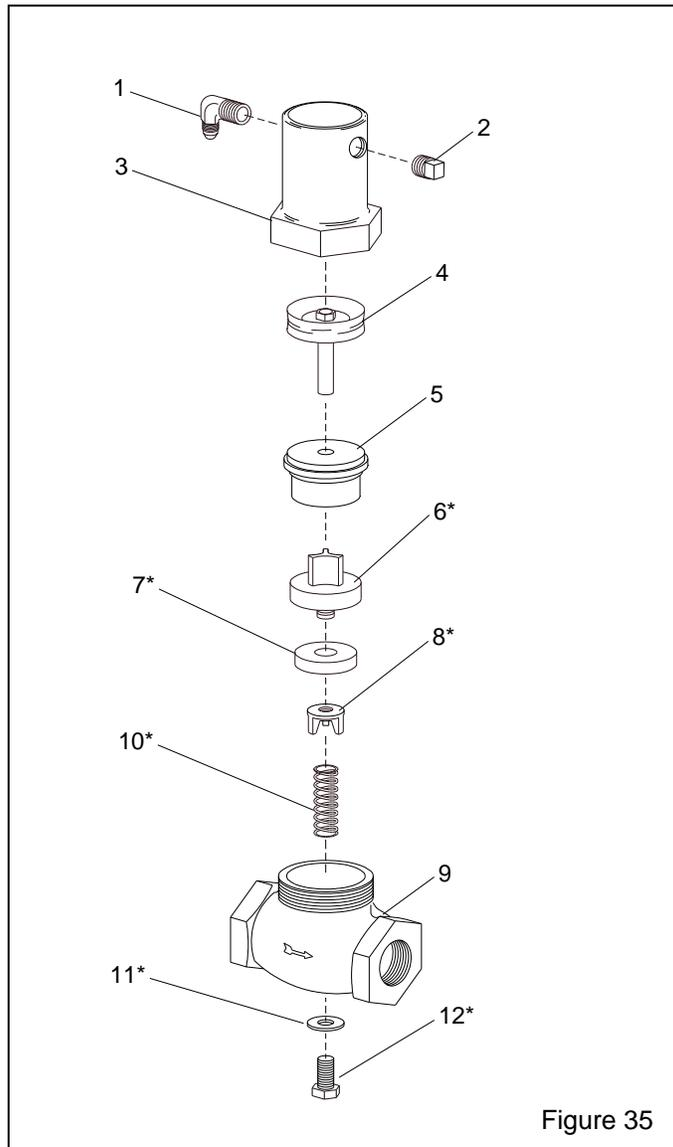

Figure 35
8.11 1" Piston Outlet Valve, Figure 35